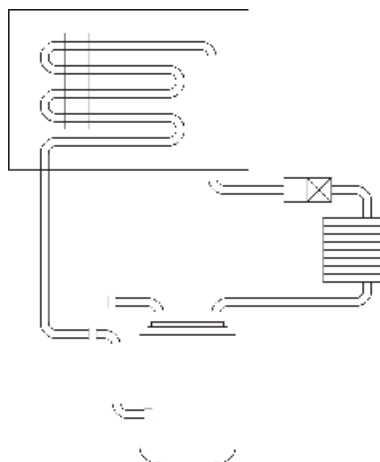

figure 31
- Connect the suction plant to the valve (figure 31).